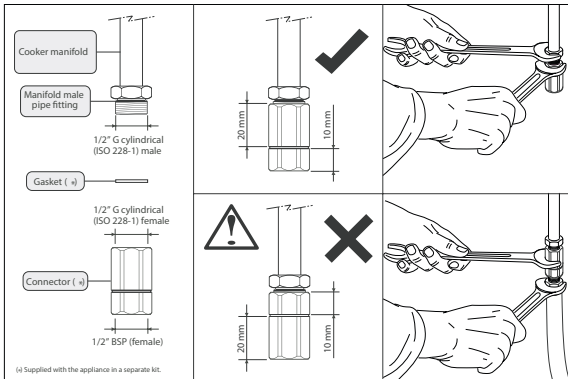

Figure 11b
- 1 Fit the 1/2" BSP (female) connector (supplied with the cooker in a separate kit) to the gas inlet at the rear of the cooker interposing the gasket. Check the correct positioning of the connector as shown and always use two suitable spanners (Fig 11b).
- 3 To avoid damage to the appliance gas rail inlet pipe tighten the fittings using two suitable spanners (Fig. 11b).